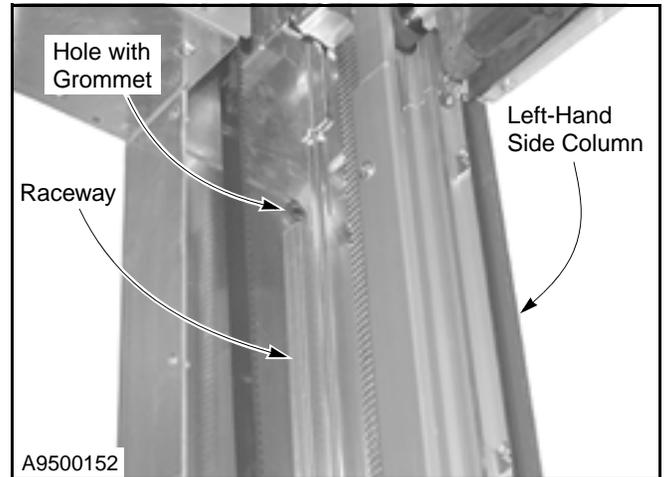

Figure 67
- Route the left-front photo eye cable out the hole that is lined with the rubber grommet. This hole is located just above the raceway. (See Figure 67.)